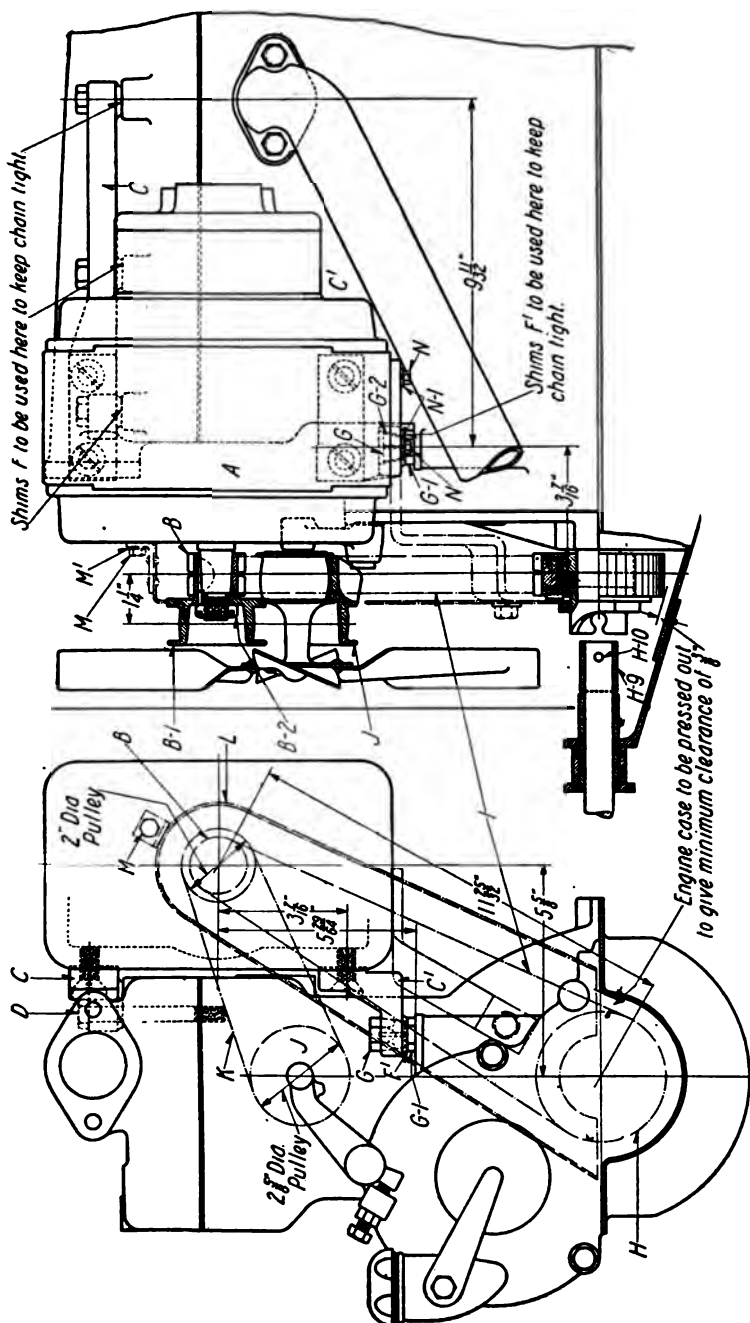

Fig. 433. End and Side Elevations of Westinghouse Ford Installation, Showing Correct Position of Parts on Engine
**Preparing Engine.** Adjust the ignition and the carburetor so that the engine fires evenly and regularly before beginning the installation. Remove the radiator and water connections, three forward left-cylinder head bolts, and the fan and bracket timer. Turn the engine shaft until the pin in the fan pulley is in a perpendicular position *h*, and then remove the starting crank and the fan pulley, Fig. 420. Use a bulldozing tool to expand the front end of the engine oil pan, Figs. 421 and 422. (This tool is obtainable from the Westinghouse Company.) It is very important that at least  $\frac{3}{8}$ -inch clearance beyond the sprocket be obtained, as shown in Fig. 433. Be sure to use the bulldozing tool with the spacing hub *XI*, Figs. 421 and 422, always next to the engine case. The tool is made in two parts and is reversible so as to be available for right-hand and left-hand operations.
Fig. 432. Bend the fan blade slightly to clear the electric unit. Instead of the Ford cranking claw and pin, use the Westinghouse sleeve *H-9* and pin *H-10*, respectively, Fig. 433. When the Ford starting crank is replaced, it may be found slightly out of alignment.